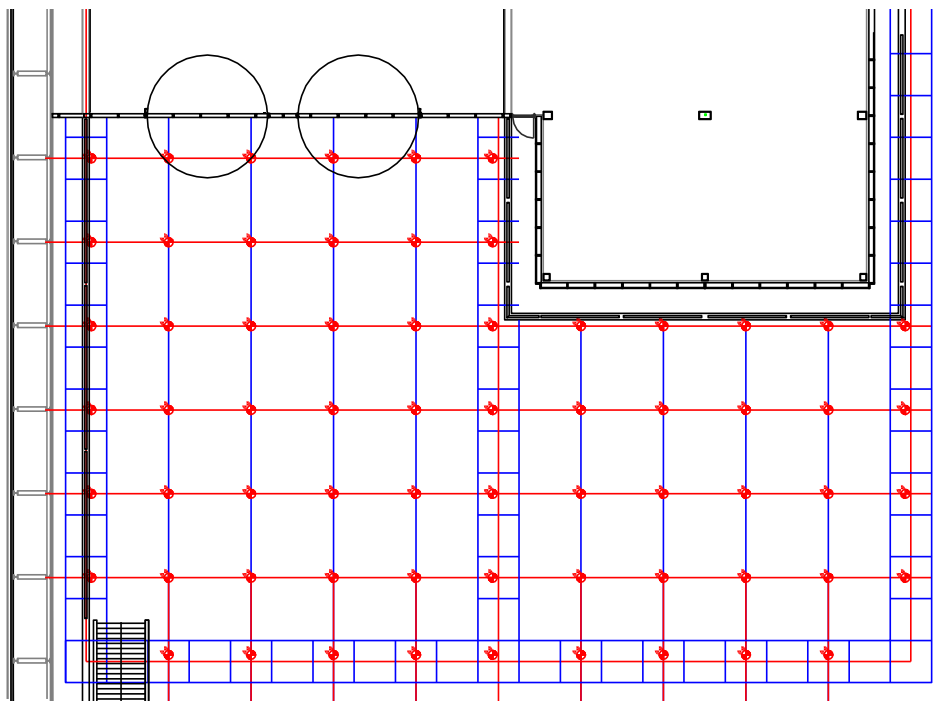

Figure 2: Entrance C : Canopy suspension points
6. For multi-point bridles (bridles), the inside angle must be less than 120 degrees (see Figure 2).